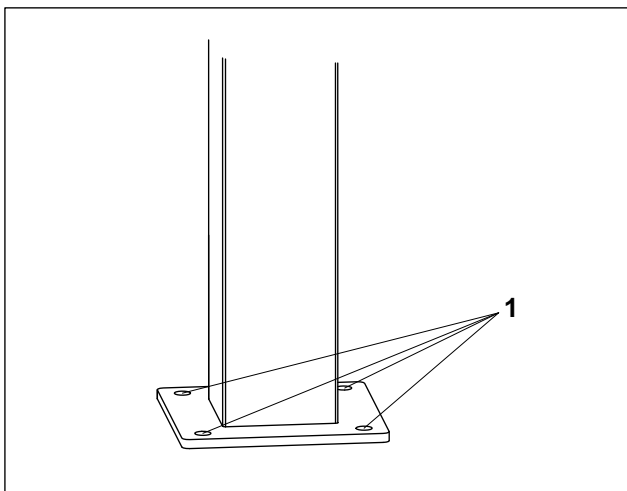

Fig. 2 Base plate of the column
2. Mark the four bore holes on the concrete foundation using the column's base plate (Fig. 2/1) as a template.